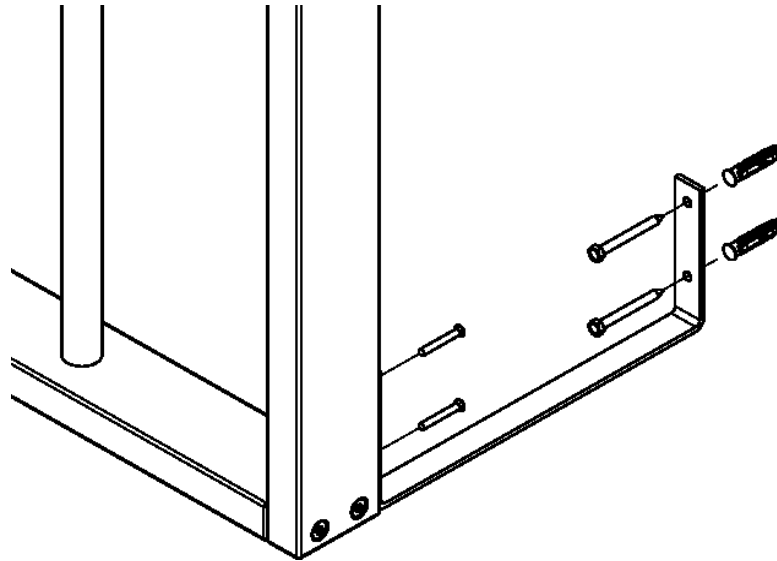

Figure 3: Assembly of bracket for floors with underfloor heating
Drill two 9 mm holes in the top of each fixed frame and four corresponding 14 mm holes into the wall. Drill another two 4 mm holes in the bottom of each frame to anchor the structure to the floor. Then mark and drill the corresponding 8 mm holes into the floor. **Please note:** Do not drill any holes into the floor if the room has underfloor heating; instead, drill two 12 mm holes into the wall so the brackets ③③ can be attached to the frames, with their edges aligned as shown in figure 3.